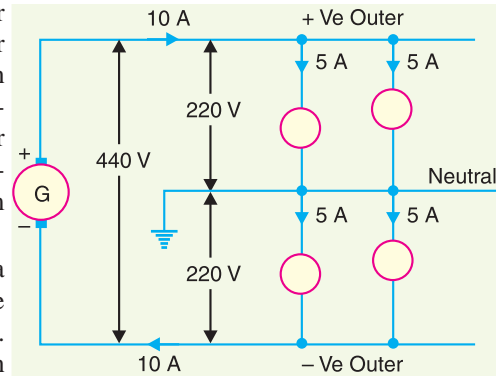

Fig. 13.48
Fig. 13.48 shows the general principles of a 3-wire d.c. system. It consists of two outers and a middle or neutral wire which is earthed at the generator end. The potential of the neutral wire is \*half-way between the potentials of the outers. Thus, if p.d. between the outers is 440 V, then positive outer is at 220 V above the neutral and negative outer is 220 V below the neutral. The current in the neutral wire will depend upon the loads applied to the two sides.
- (i) If the loads applied on both sides of the neutral are equal (*i.e.* balanced) as shown in Fig 13.48, the current in the neutral wire will be zero. Under these conditions, the potential of the neutral will be exactly half-way between the potential difference of the outers.